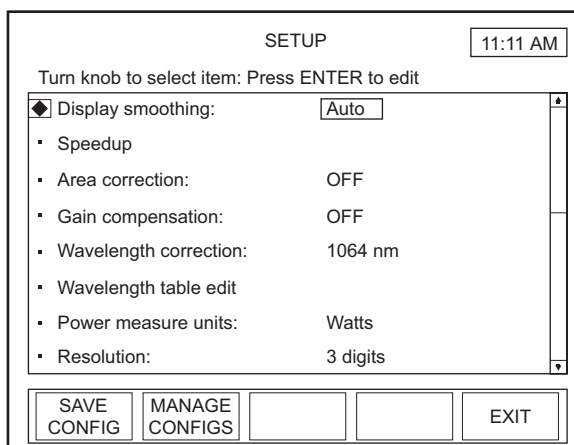

Figure 49. SETUP: Display Smoothing
2. Press the ENTER/SET button to highlight the editable field (Figure 49).